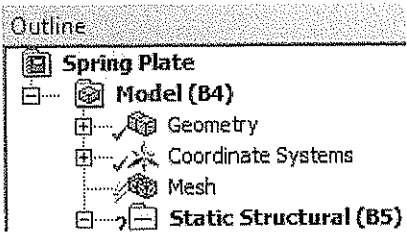

Figure 9-42 The *Project* node renamed as *Spring Plate*
- 7. Enter **Spring Plate** as the new name of the node; the **Project** node is renamed as **Spring Plate**, as shown in Figure 9-42.